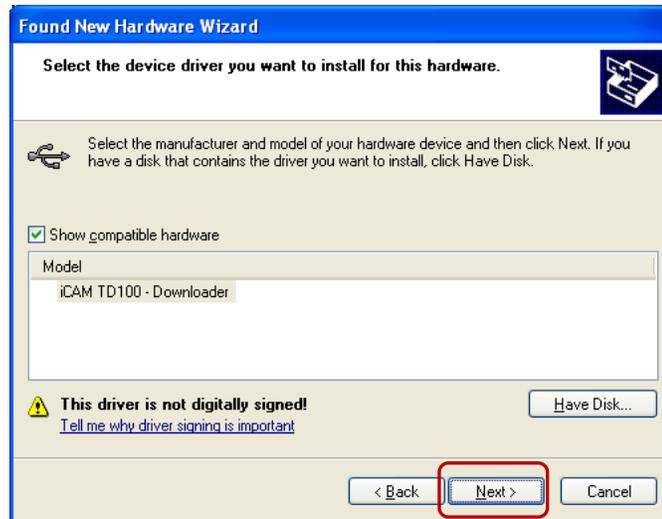

Fig. 14
9. Press > “Next” button as shown in Figure 14, to proceed to next screen.